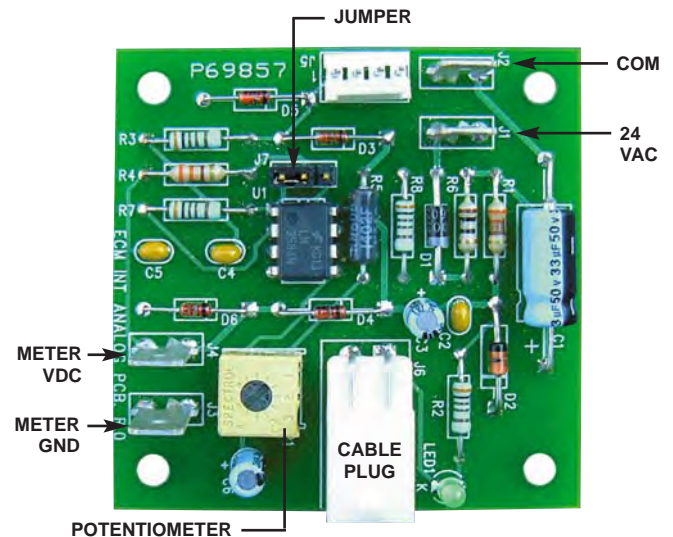

Figure 1. AO Smith ECM Card.
**BEFORE PROCEEDING WITH ANY ADDITIONAL TROUBLESHOOTING, ENSURE THAT THE POLARITY OF THE 24 VAC SUPPLY TO THE CONTROLLER IS CORRECT. (SEE FIGURE 1). IF THE POLARITY IS NOT CORRECT, REMOVE THE CONNECTORS AND RECONNECT OBSERVING PROPER POLARITY. RECHECK THE SYSTEM FOR PROPER OPERATION.**